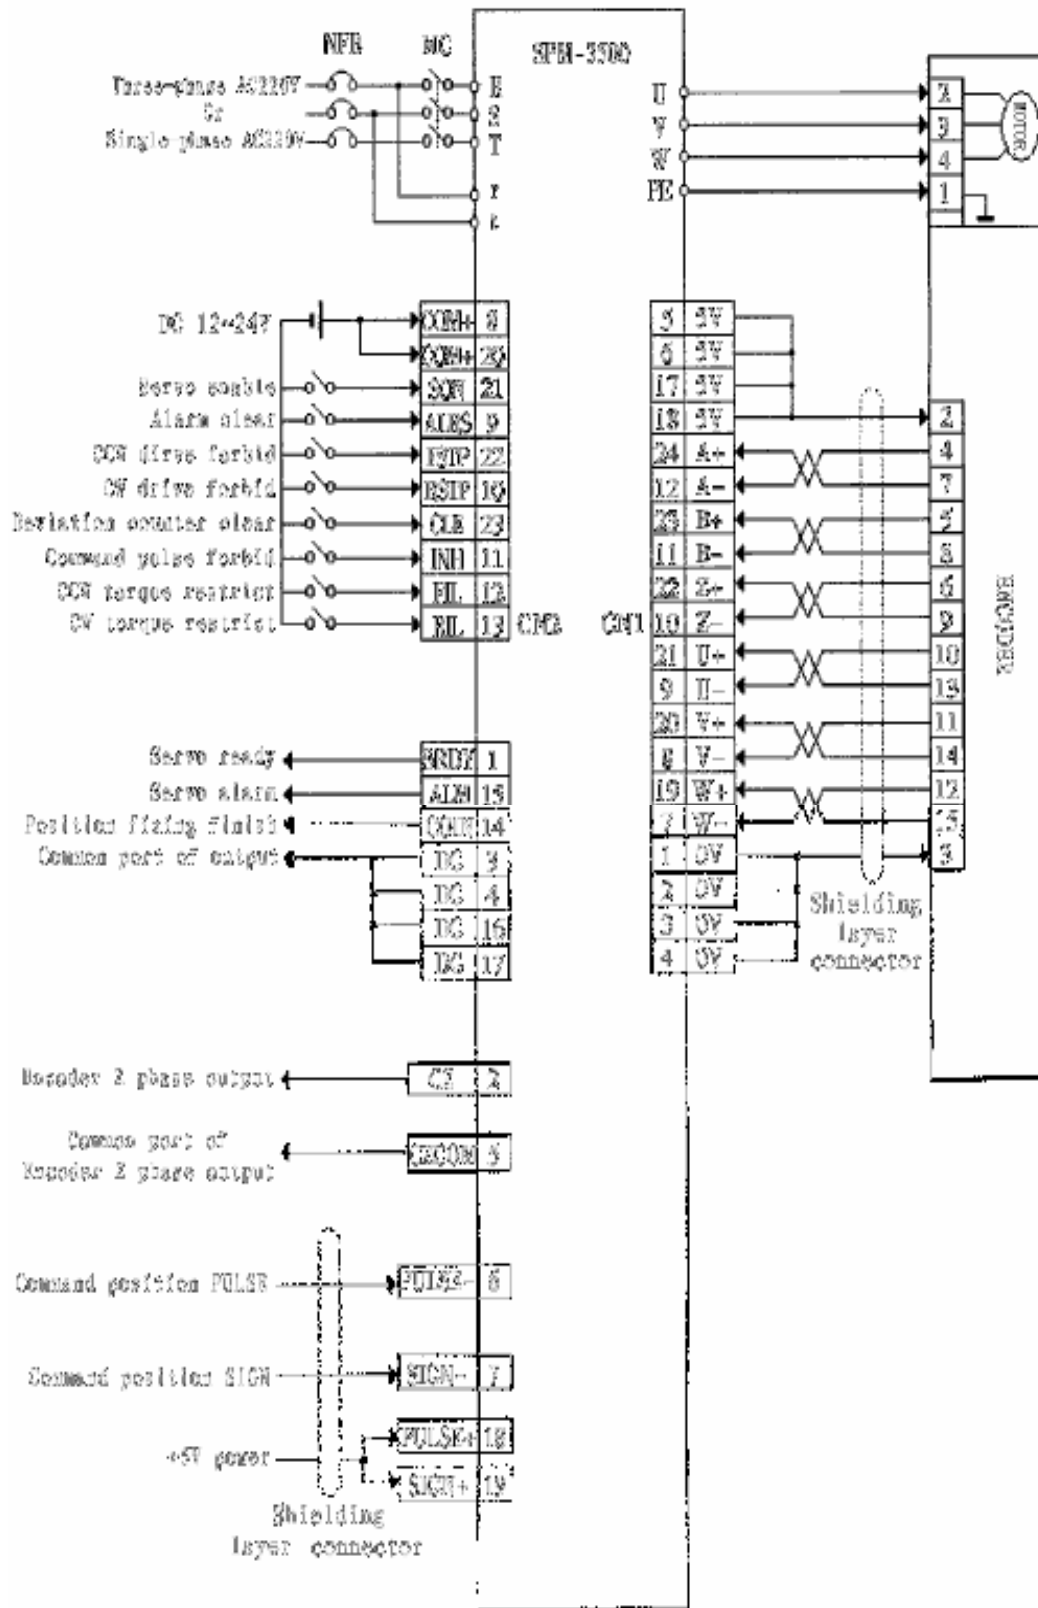

Fig 5.3 The standard wiring for position control mode between the driver and HUADA/XINYUE/KANGMING/YUHA/DONGHAO servo motor
- 3) Fig 5.3 shows: The standard wiring for position control mode between the driver and HUADA/XINYUE/KANGMING/YUHAI/DONGHAO servo motor;